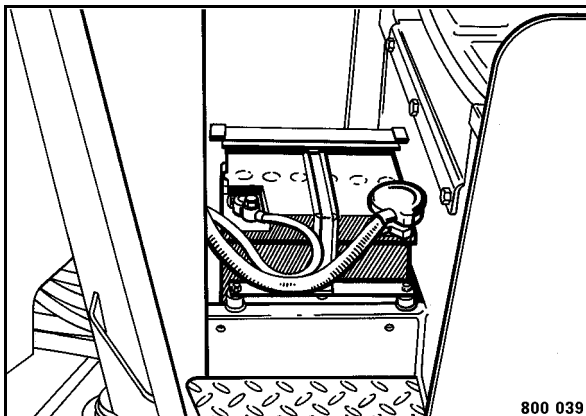

Fig. 115
- Remove the covering hood from the foot area (Fig. 115).